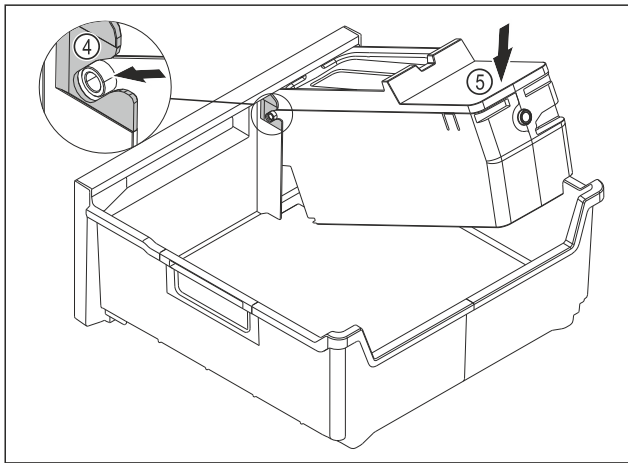

Fig. 121
- ▶ Installing the EasyTwist-Ice body: Push the axes for the EasyTwist-Ice body into the guides Fig. 121 (4).
- ▶ Press the EasyTwist-Ice body Fig. 121 (5) down at the back.